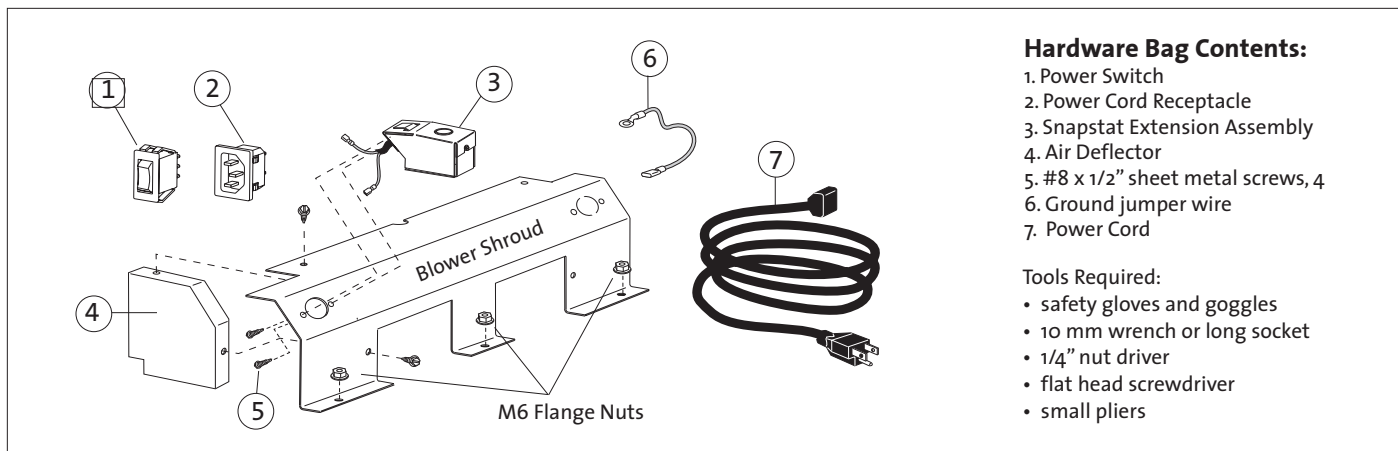

Figure 13. Blower hardware contents and assembly.
1. Remove the Blower Shroud to provide access to the wire harness. Use a 10 mm socket or wrench to remove the three M6 flange nuts that secure the shroud to the base. See fig. 13.
3. Install Snapstat Extension Assembly: Remove the snapstat knock-out from the appropriate side of the Blower Shroud. Run the snapstat leads through the hole and attach the bracket to the Shroud using two #8 x 1/2" sheet metal screws. See fig. 13.
4. Attach the Air Deflector: Using the two remaining #8 sheet metal screws, attach the Air Deflector to the Blower Shroud on the same side as the snapstat is installed. See fig. 13, parts 4 and 5.